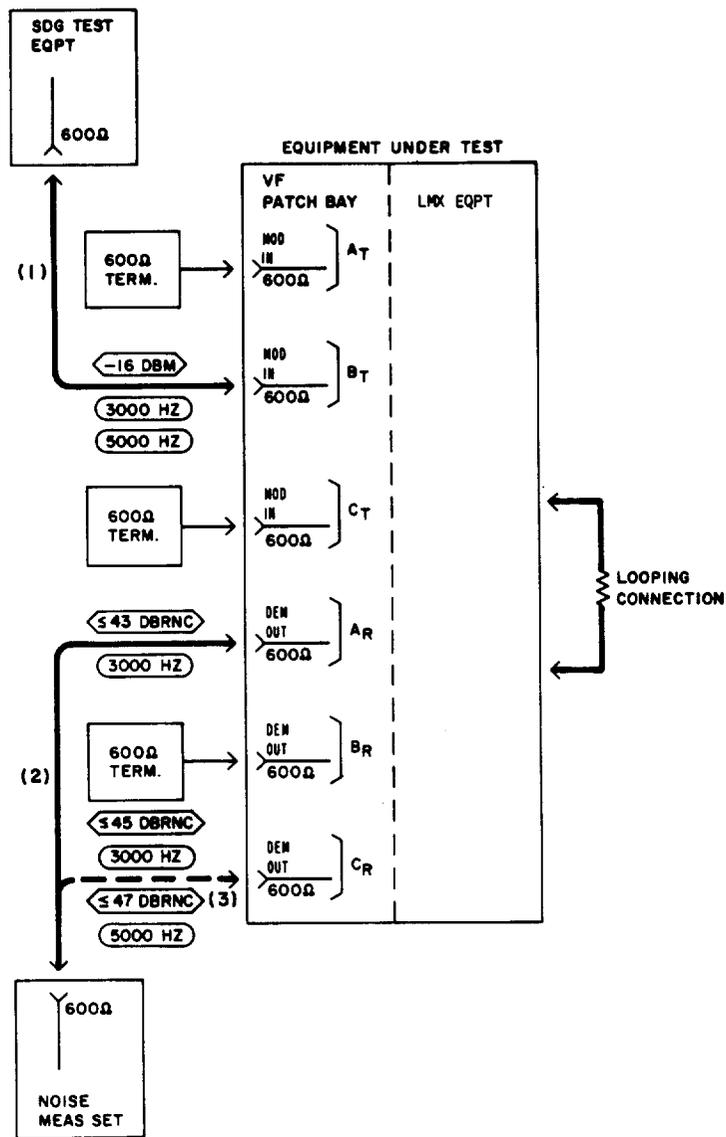

Fig. 11—Patching Diagram—Interchannel Crosstalk Test
| 12 | Insert a 262B plug (600-ohm termination) in the MOD IN jack for Channels A _r and C _r in Test A (Table G and Fig. 11) of the channel bank under test. |
| 13 | Connect the STE to the MOD IN jack for Channel B _r [patch (1), Fig. 11]. |
| 14 | Insert a 262B plug in the DEM OUT jack for Channel B _r (Fig. 11). |
| 15 | Connect the NMS to the DEM OUT jack for Channel A _r [patch (2), Fig. 11]. |
| 19 | Remove patch (2), Fig. 11. |
| 20 | Connect the NMS to the DEM OUT jack for Channel C _R [patch (3), Fig. 11]. |
| 27 | Remove patches (1) and (3), Fig. 11. |